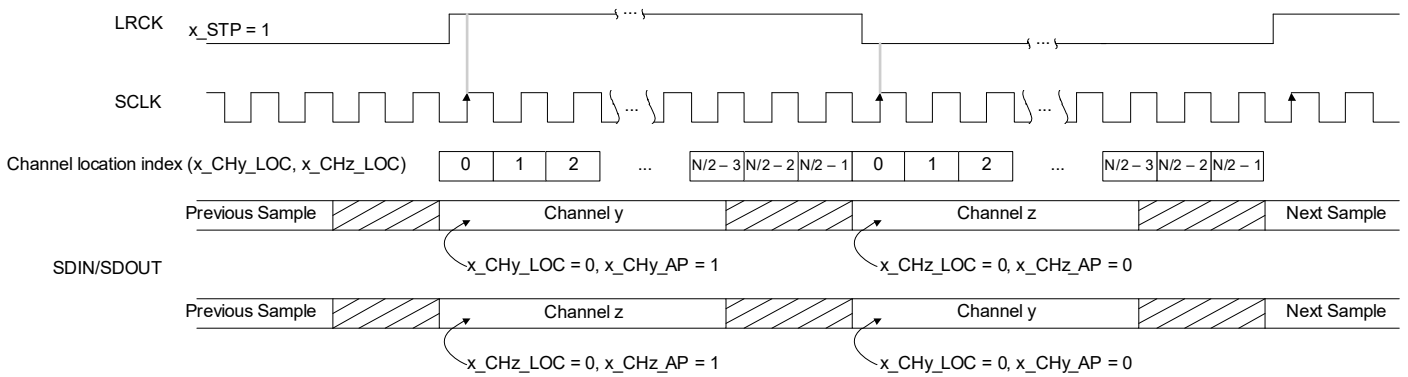

Figure 4-38. Example 50/50 Mode (ASP_STP = 1)
- If **ASP_STP = 1**, the frame begins when LRCK/FSYNC transitions from low to high. See Fig. 4-38.